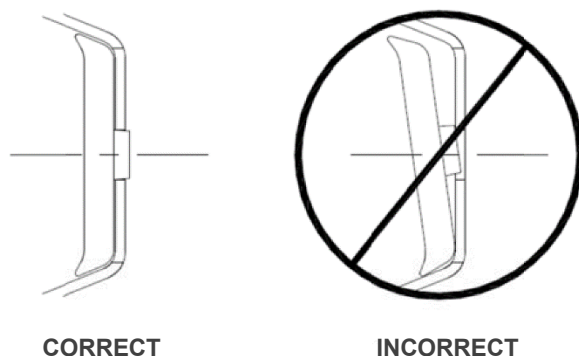

Figure 35
- 5) All Mushroom Washer Assemblies are properly aligned and positioned (Figure 35).